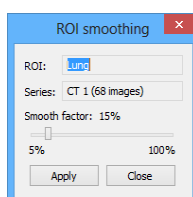

Figure 253 – ROI smoothing dialog
2. The **ROI Smoothing** dialog is then displayed (see Figure 253).